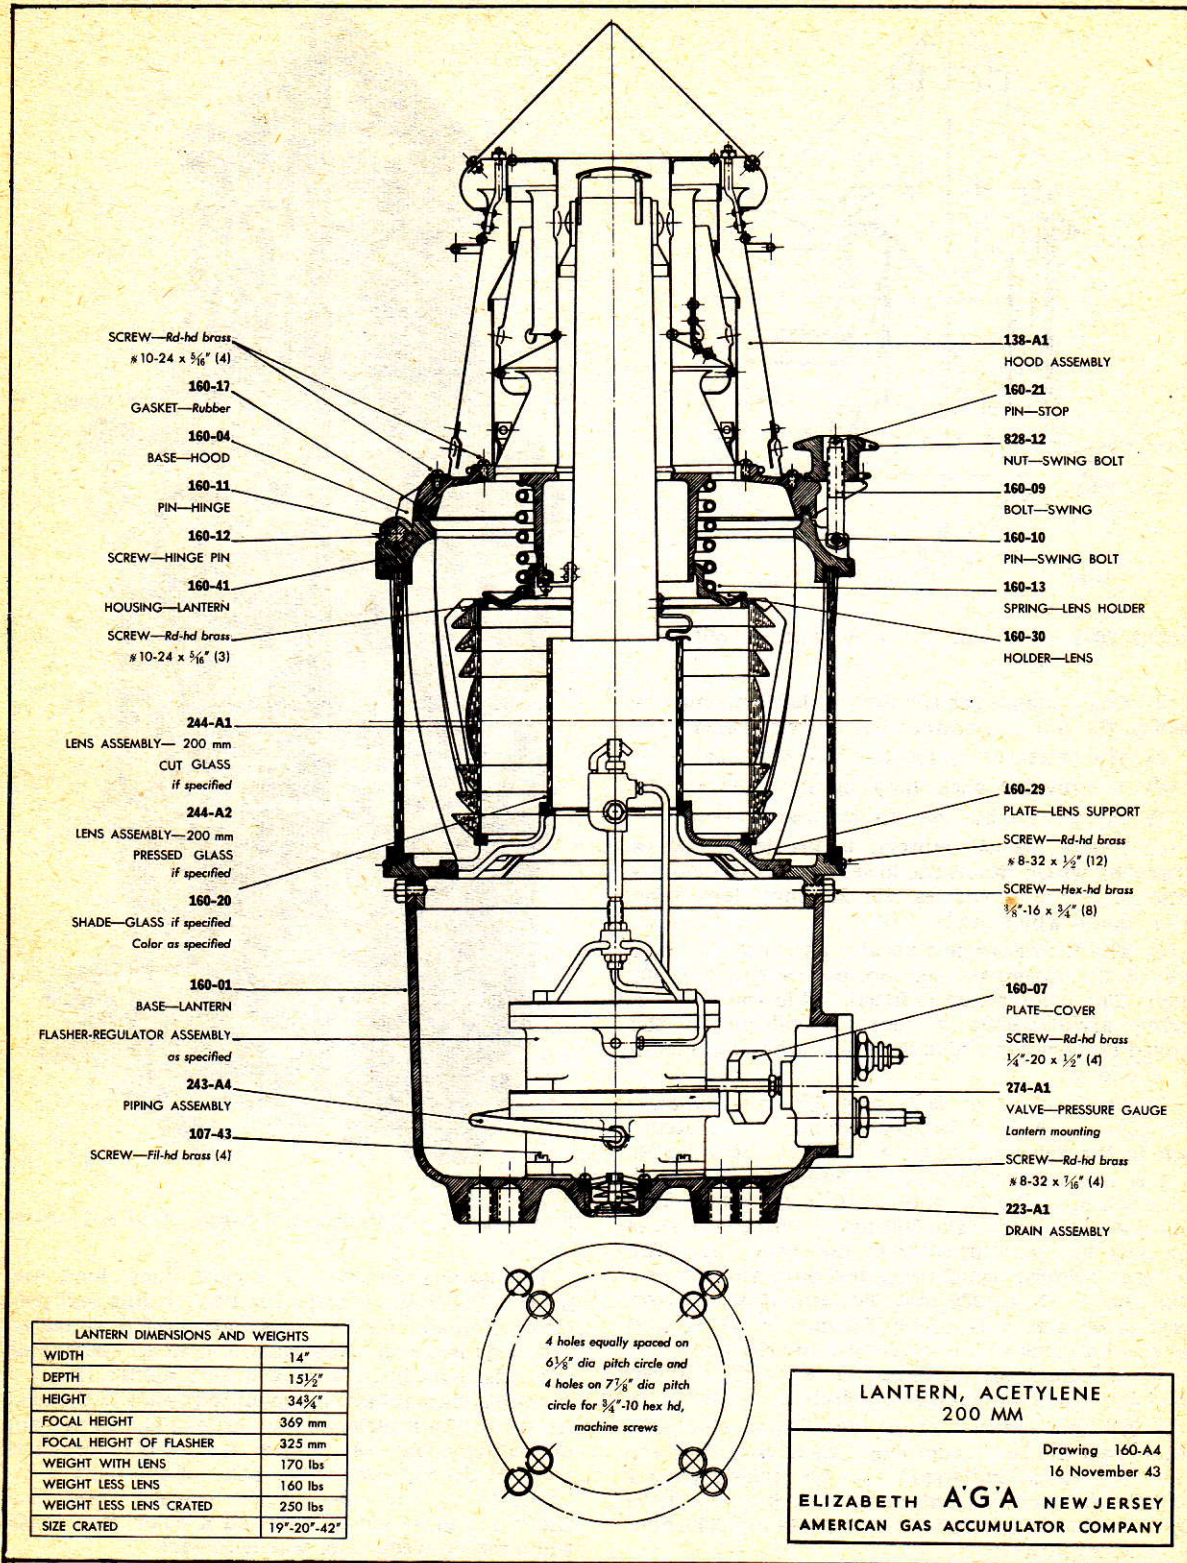

FIGURE 20-11.—200-mm. A. G. A. lantern.
(2) The 200-mm. lantern is a stormpane lantern containing a 360° drum-type 200-mm. pressed glass lens and a 130-mm. flasher-regulator. There are two types in use, the A. G. A. and the Service lanterns (See figs. 20-11 and 20-12.)